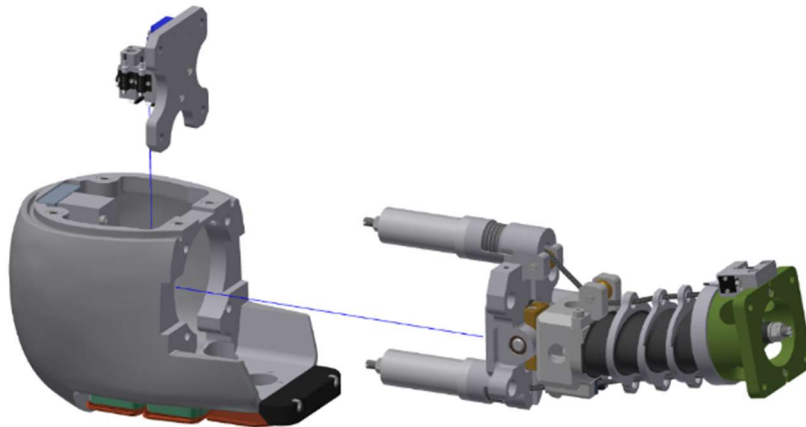

Figure 3-32. Head, neck, and sensor mounting plate assemblies
- 3.3.13 Orient the sensor mounting plate and the neck assembly so that the dual axis tilt sensor (SA572-S44) and the neck rear cable pulley are towards the rear of the head. Insert the sensor mounting plate into the skull (474-1010) and position the neck below the bottom of the head (Figure 3-32).